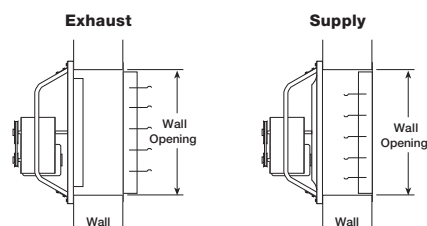
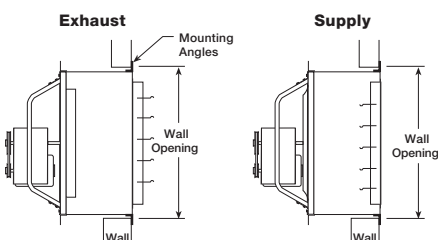
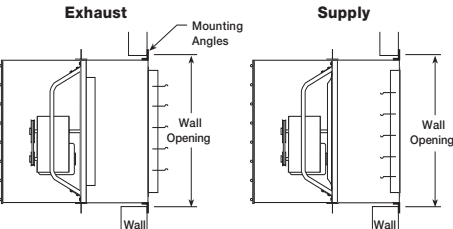
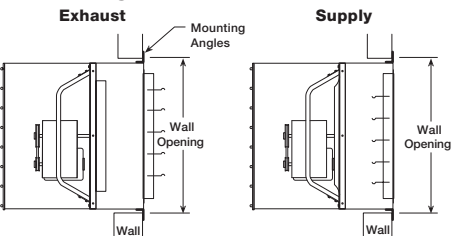

Figure 3 — Direct to Wall Installation
Figure 4 — Wall Collar Installation
Figure 5 — Wall Collar & Guard Installation
Figure 6 — Wall Housing Installation
the fan is to be mounted as shown in Figures 3, 4, 5 and 6 on pages 4-5. Optional wall collar (Figure 4), wall collar and guard (Figure 5) or wall housing (Figure 6) provide a convenient means of mounting sidewall fans.
3. Figure 3 shows the recommended wall opening for direct to wall installations.
4. Figure 4 shows the wall opening required for installations using a wall collar.
5. Figure 5 shows the wall opening required for installation with a wall collar and a guard.
6. Figure 6 shows the wall opening required for installation with a wall housing.